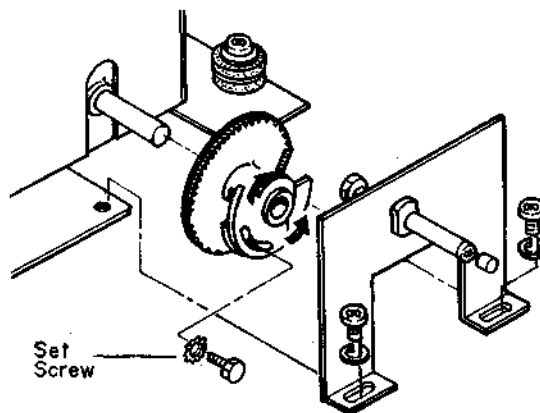

Fig. 3-1-3 Stopper Mechanism Detail
- (3) Loosen the set screw on the mechanical stopper mechanism at the front end shaft of the tuning capacitor. See Fig. 3-1-3.